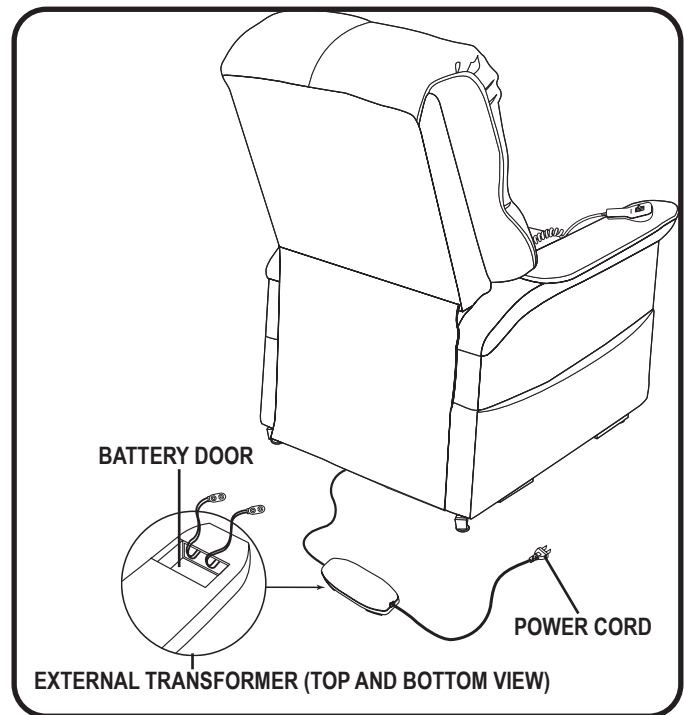

Figure 4.2 Power Lift Recliner Battery Backup Location
3. Install two 9V batteries into the external transformer (**Fig. 4.2**).